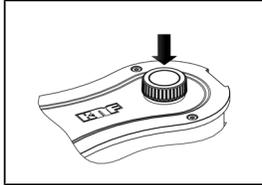

Fig.4: Switching the pump on/off
- Switch on the pump by pushing the rotary/push knob (see Fig. 1/3, see Fig. 4).
- Switch the pump with the rotary/push knob (see chapter Fig. 4).